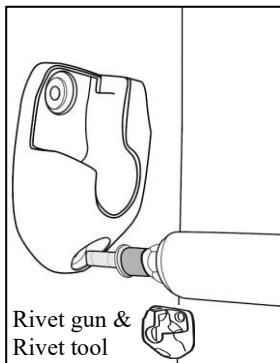

Fig. 1-8
- Figures 1-8 and 1-9 show a rivet gun with the shoulder spacer.
(8) Use the supplied rivet tool when securing the rivets shown in figure 1-8 & 1-9.